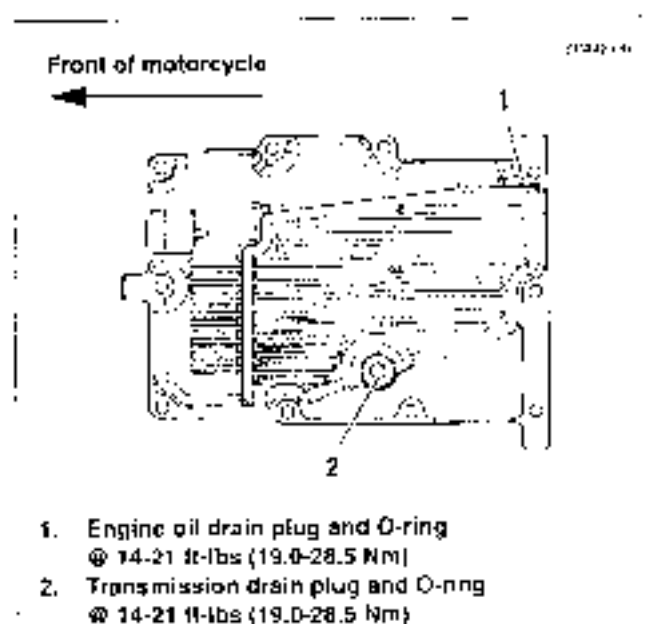
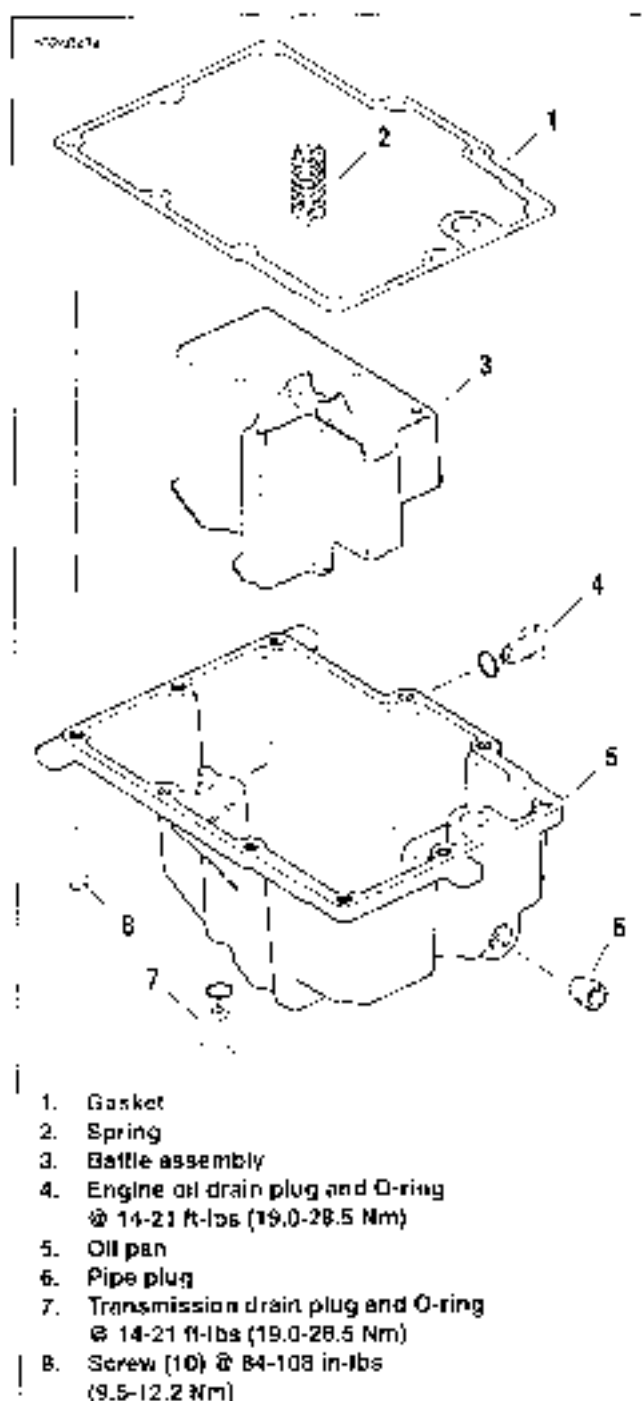

Figure 3-165. Drain Plugs
Figure 3-166. Dyna Glide Oil Tank
2. See Figure 3-165. Drain fluids from oil pan.
- a. Remove engine oil drain plug (1), plug/dipstick and oil filter. Drain oil into suitable container. See 1.4 ENGINE OIL AND FILTER.
- b. Remove transmission drain plug (2). Drain transmission fluid into suitable container. See 1.3 TRANSMISSION LUBRICANT.
3. See Figure 3-166. Remove ten screws (8) that secure the oil pan to the transmission housing.
4. Remove oil pan (5) and gasket (1). Discard gasket.
5. Remove baffle assembly (3) and spring (2) from oil pan.
2. See Figure 3-166. Insert baffle assembly (3) and spring (2) in oil pan.
3. Place new gasket (1) on oil pan.